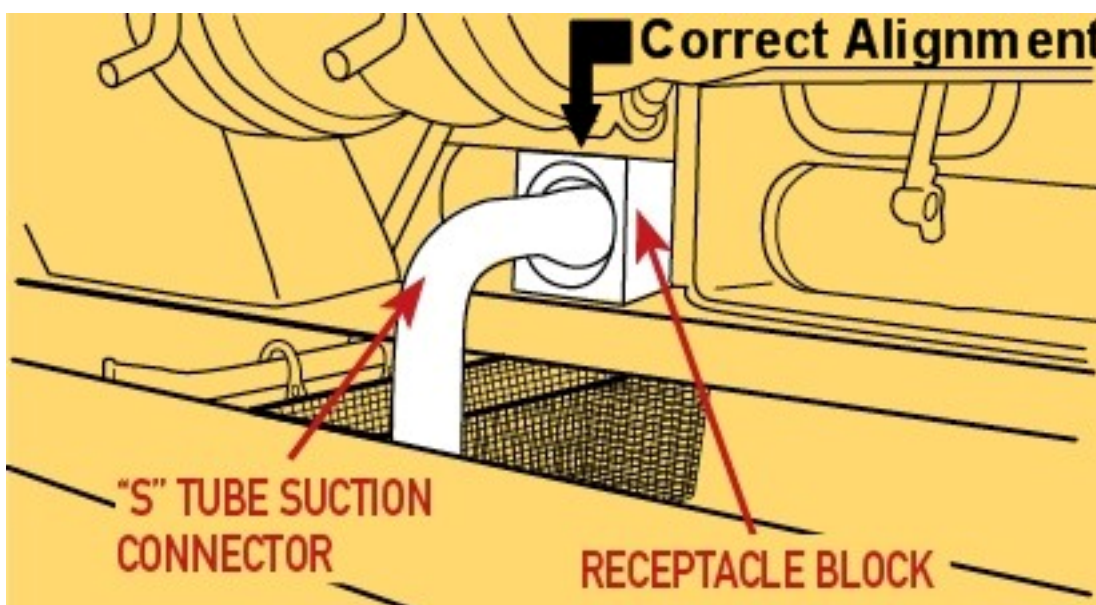

Fig. 5
3. Turn the Filter Power switch to the **ON** position. Make sure that the filter drawer is closed completely and that the suction tube and receptacle block are in the correct position. Fig. 5